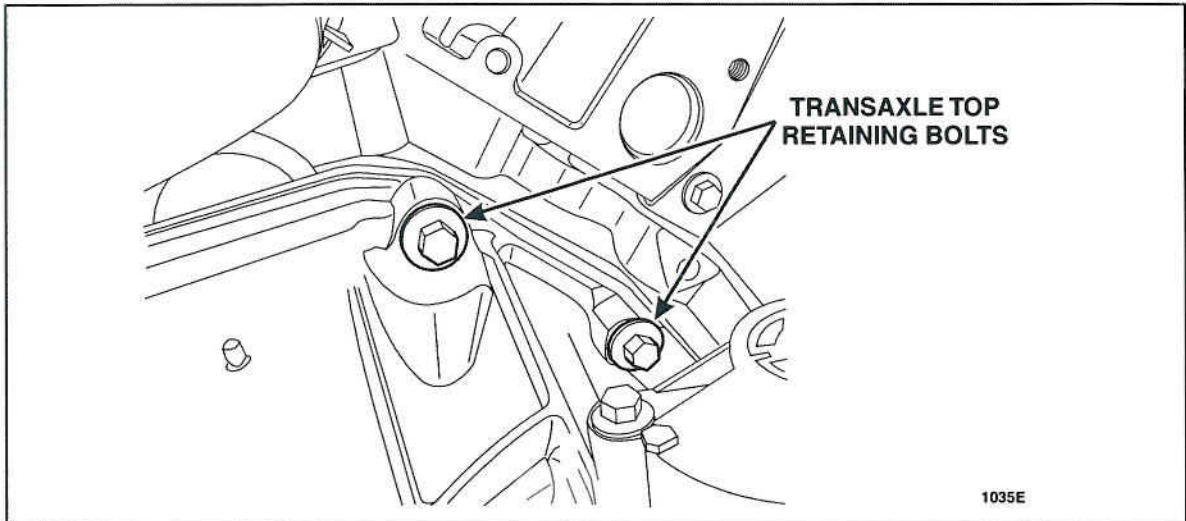

FIGURE 9
18. Remove the two transaxle top retaining bolts. See Figure 9.